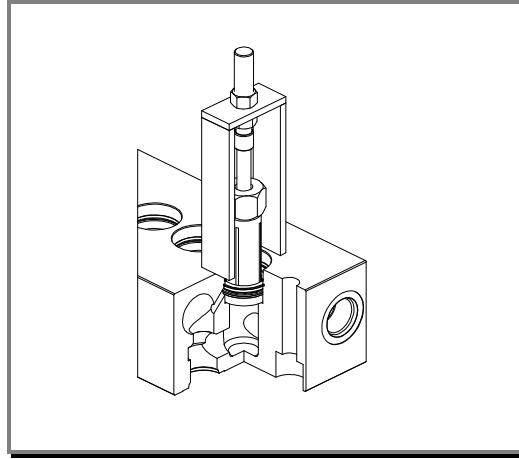

Fig. 15: Weep Ring Extraction
With a flat screw driver remove the low-pressure seal (40). Manually remove the low-pressure seal spacer (39). With the snap ring pliers remove the snap ring (38). Using the weep ring extracting tool, remove the weep ring (37) as shown in Fig. 15.